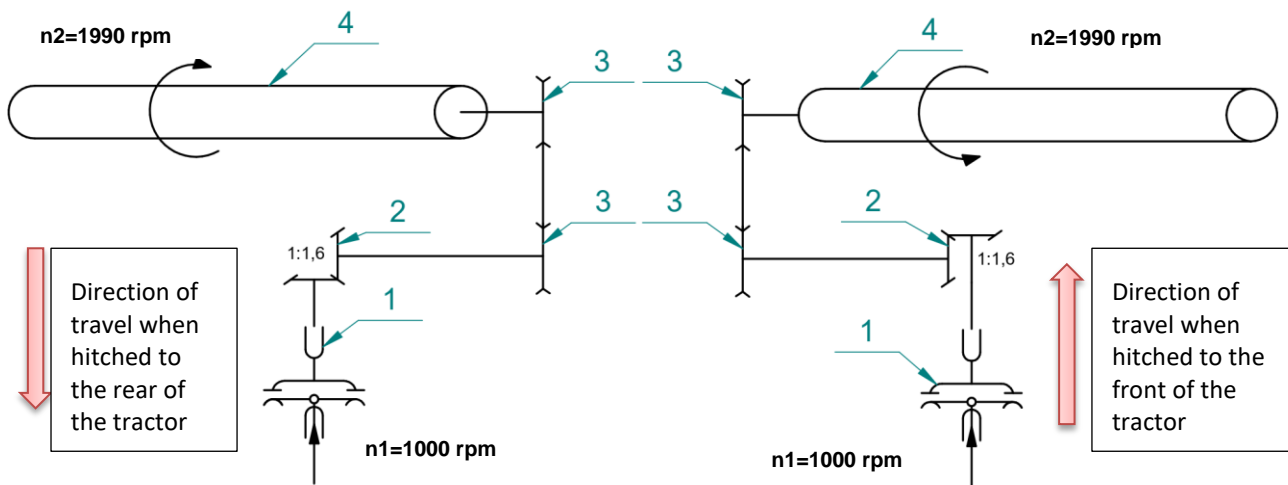

Figure 4. Direction of rotation of the working shaft
The Tiger flail mower is a machine which can operate in the front as well as in the rear of the tractor, using a sliding hitching system on both sides (1). The working shaft (2) is driven from the tractor's PTO via a jointed-telescopic shaft (3) connected to an angular gearbox (4), which further transmits the drive to a belt transmission (5). The working element of the machine consists of flails or knives mounted on the working shaft (2). It is housed in a body (8) supported on the ground by the driving shaft (6). The body and the working shaft are protected from undercutting by sliders (9). The sliders are not designed for permanent contact with the ground. Position the machine so that the sliders are parallel to the ground. The mower should move supported on the running shaft, not on the slides. It is possible to connect the machine to the front or the rear of the tractor, bearing in mind the input speed of 1,000 rpm and the correct direction of rotation of the working shaft, as shown in Figure 4. To improve the shredding of the mowed mass, the machine is equipped with 6 interchangeable counter-knives (7) mounted in two rows.